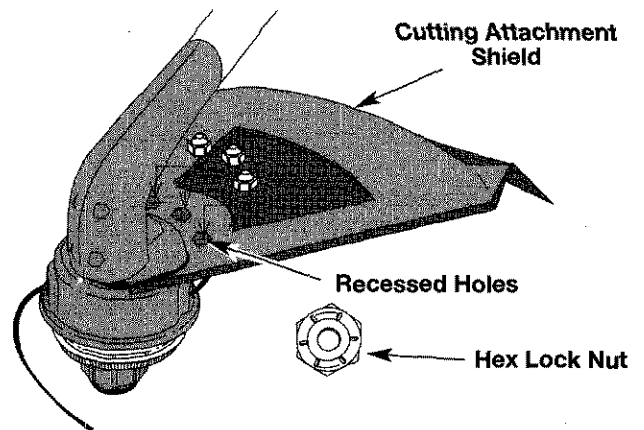

Fig. 7
2. Place a hex lock nut into one of the three recessed holes on the top of the cutting attachment shield (Fig 7).